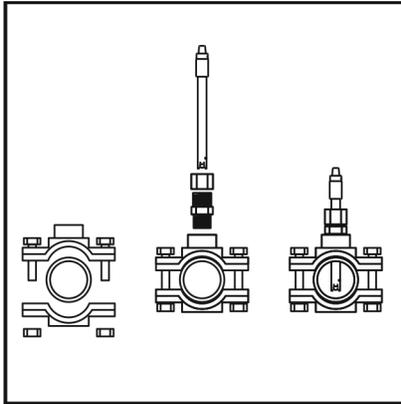

Fig 8.
- Install the pH and ORP electrode holders in the circuit through ½" saddles (not included with the equipment) (Fig.8)